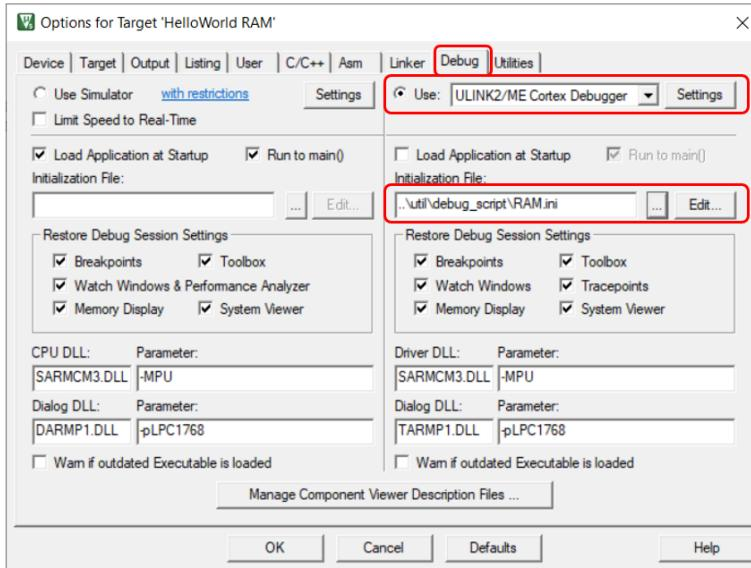
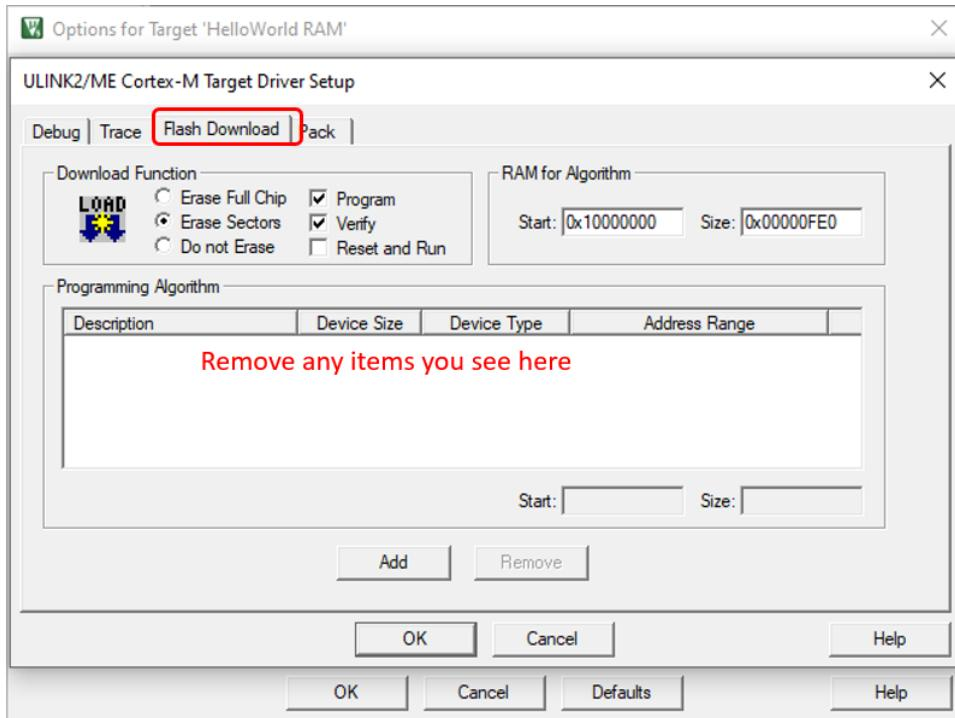

Figure 7.30: Keil IDE: Configure ULINK-ME Hardware Debugger.
Figure 7.31: Keil IDE: Flash Download Programming Algorithm Configuration.
5. Select the ULINK2/ME Cortex Debugger in the target options Debug tab and use an debug script RAM.ini provided in the starter code (See Figure 7.30) as a initialization file. An initialization file RAM.ini (see Listing A.2 in Appendix A) is needed to do the proper setting of SP, PC and vector table offset register.
6. Press the settings button beside the ULINK2/ME Cortex Debugger (see Figure 7.30) and select the Flash Download tab (see Figure 7.31). Remove the LPC17xx